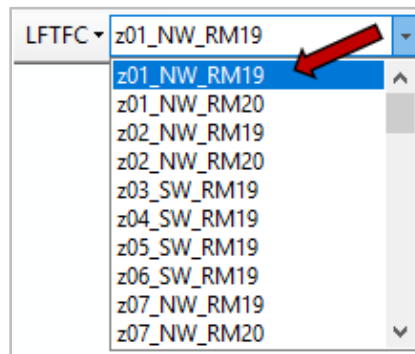

Figure 6-8. Select MU option from the drop-down menu.
- Select the MU you created from the list displayed in the drop-down menu (Figure 6-8).